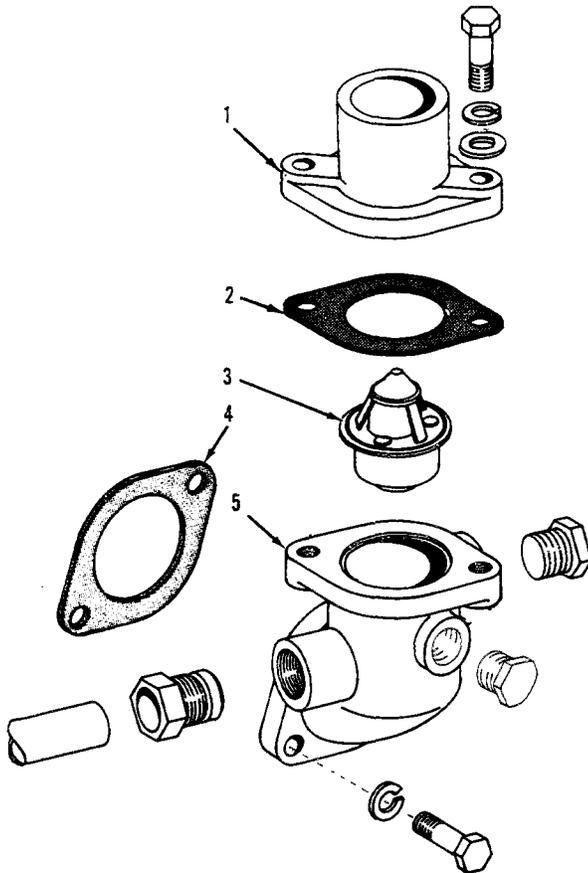

FIG. 3 THERMOSTAT HOUSING PARTS
1. THERMOSTAT REMOVAL (Fig. 3)
- c. Remove thermostat; clean and inspect housing and examine gasket. If leakage between thermostat housing and block is evident, remove housing and replace gasket (4).
3. THERMOSTAT INSTALLATION (Fig. 3)